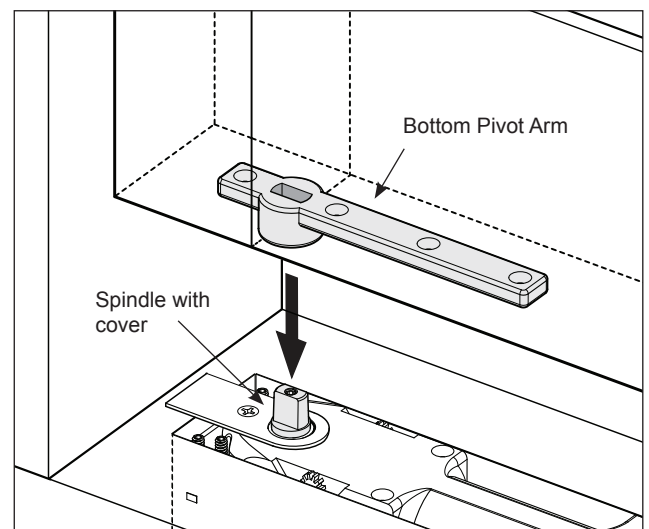

FIG. 9
4. Replace the closer mechanism if it was removed from the Cement Case. Ensure the removable clamps are engaged in their sockets and loosely tighten the clamp set screws to allow for adjustment. Secure the Spindle Cover with a 12-24 x 1/2" (M6-1.0 x 12 mm) flat head screw. **(Fig. 9)**
5. Position the door over the floor closer and align the Bottom Pivot Arm over the Spindle. Try to keep the door as vertical as possible to avoid excessive torque on the Spindle. **(Fig. 9)**